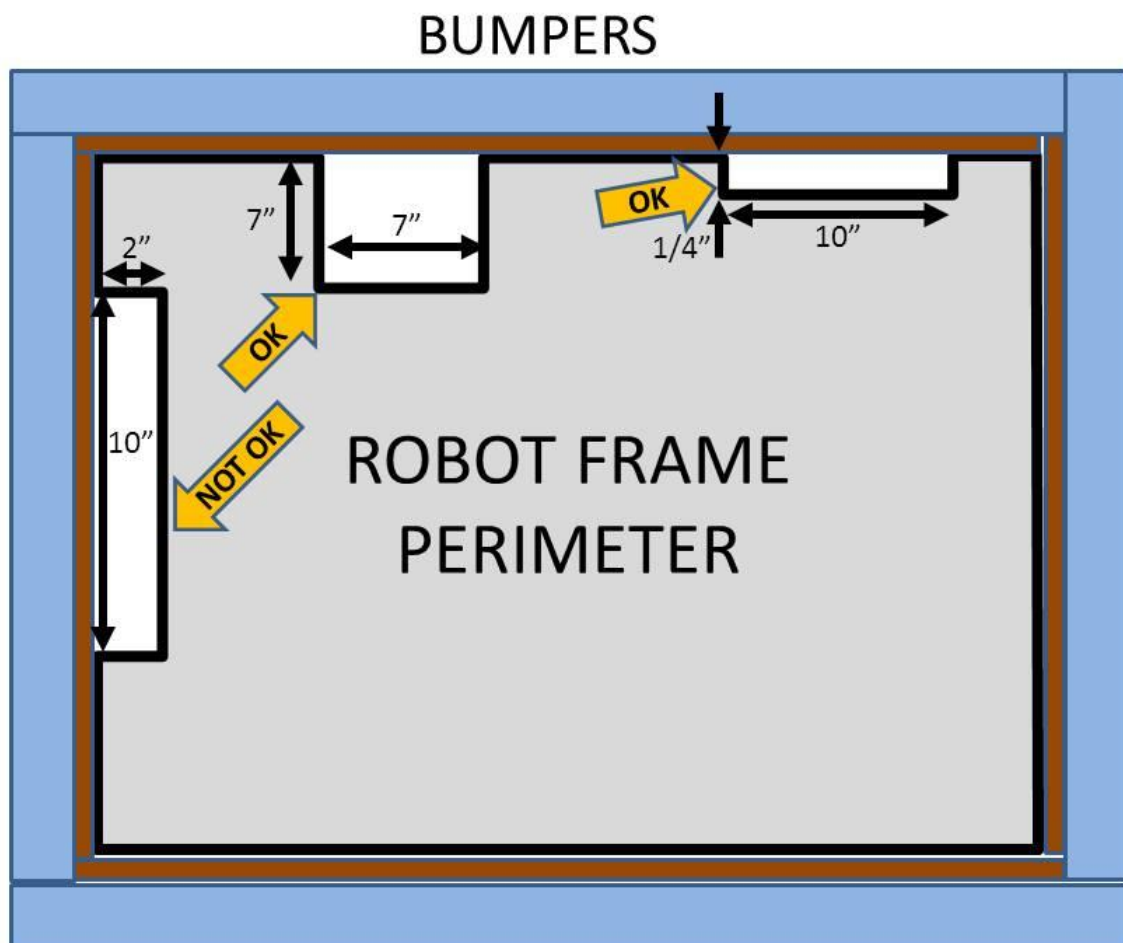

Figure 4-7
- [R33] Bumpers must be supported by the structure/frame of the Robot (i.e. the gap between the backing material and the frame must not be greater than  $\frac{1}{4}$  in. and no section of Bumper greater than 8 in. may be unsupported). See Figure 4-7.